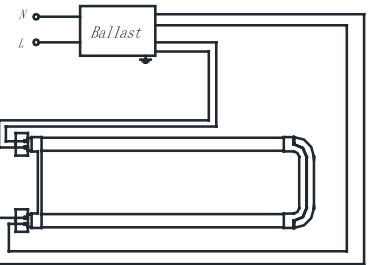

Fig. 1
STEP 3: Check if the LED tubes rating parameters can be replaced in this luminaire, below is the original wiring drawing, shown as below, Fig. 1.